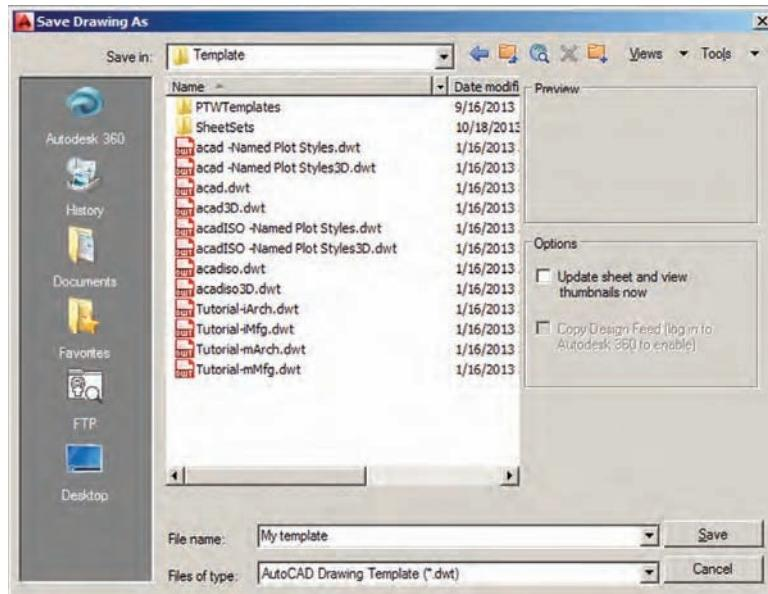

FIGURE 14.7 Saving a new drawing template
5. Click the Save As button in the Quick Access toolbar. Change the Files Of Type drop-down in the Save Drawing As dialog box that appears to AutoCAD Drawing Template (\*.dwt). Type **My template** in the File Name text box (see Figure 14.7). Click Save.